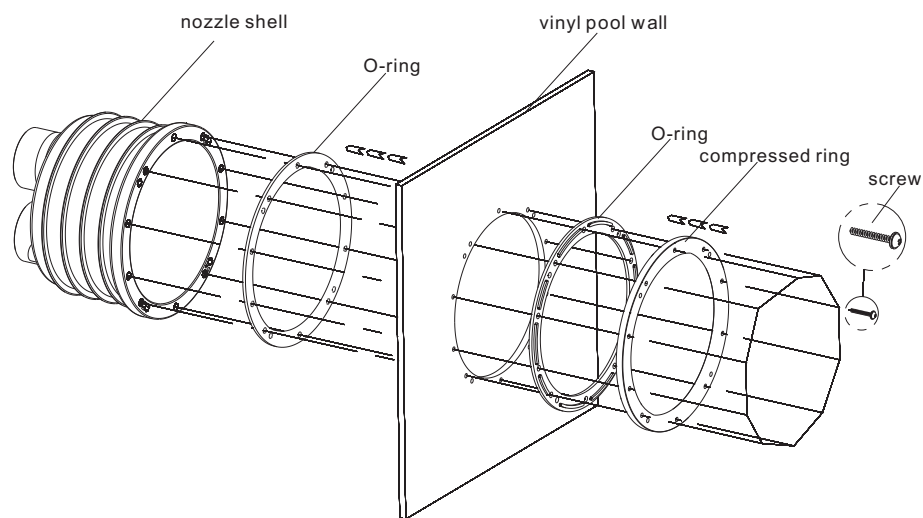

Figure 4
- b) Install the outer shell, plastic ring, in the correct order on the pool shell wall. ( Figure 4)